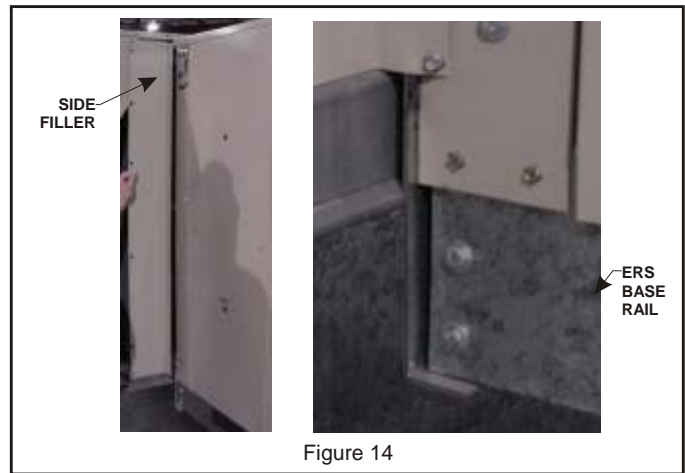

Figure 14
7. Lower ERS into ERS support rail catching the front edge of the ERS bottom into the 1/2" flange. Tuck the front top flange of ERS under the rooftop unit top panel. Slide the ERS so that it is tight against the side filler. Now secure unit top and side filler to the ERS. **See Figures 14.**